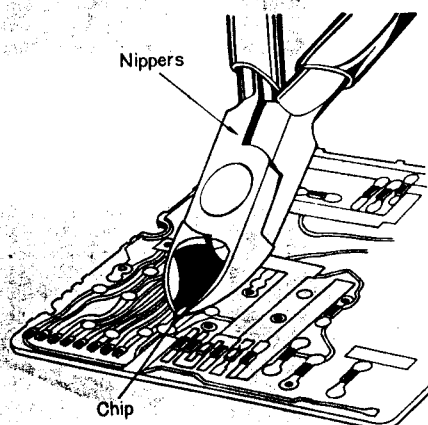

Fig. 13
2. Remove chip by nippers, as shown in fig. 13.